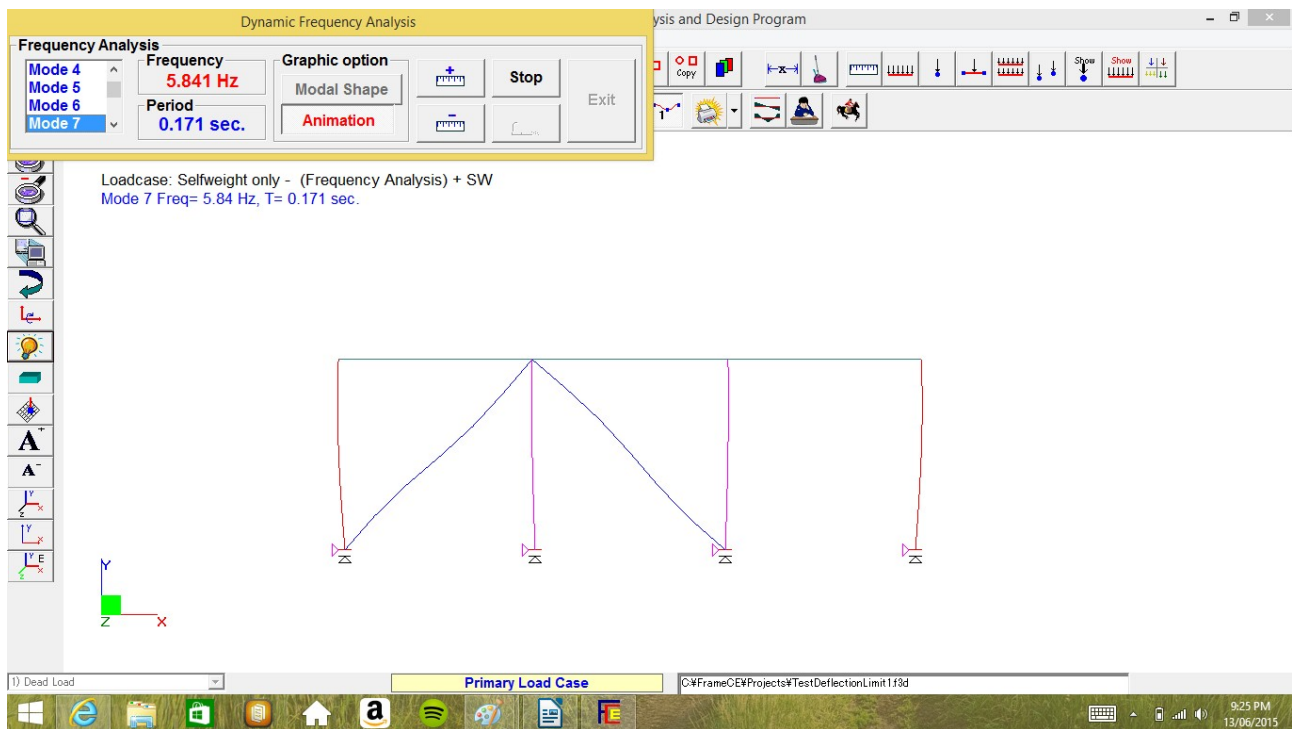

Figure 84
**Step 3:** Click 'OK' button. After the analysis is done, Figure 84 will appear. Select a mode number and the corresponding mode shape will be displayed.